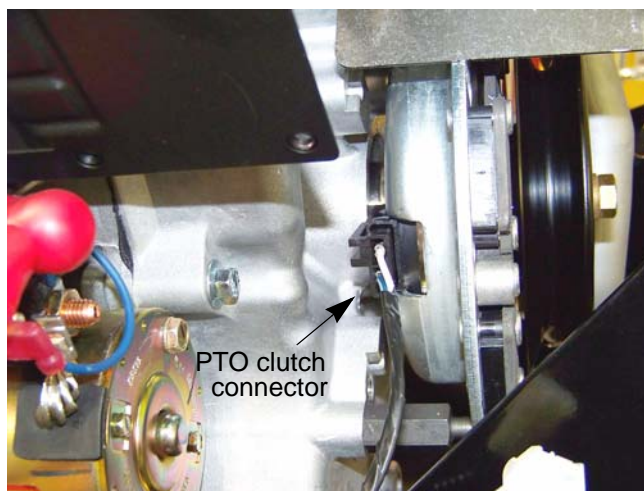

Figure 8.51
3. Disconnect the harness from the PTO clutch. See Figure 8.51.